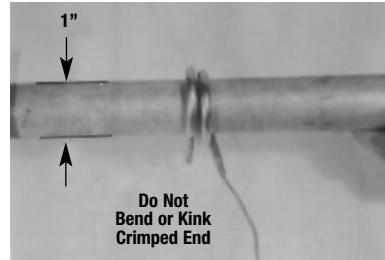

Figure 3
- A. Bending or deforming sensing bulb will alter control calibration — requiring recalibration after installation. See CALIBRATION section, page 3. If necessary, Style 9 bulbs can be coiled to 1" I.D. (see Figure 3).